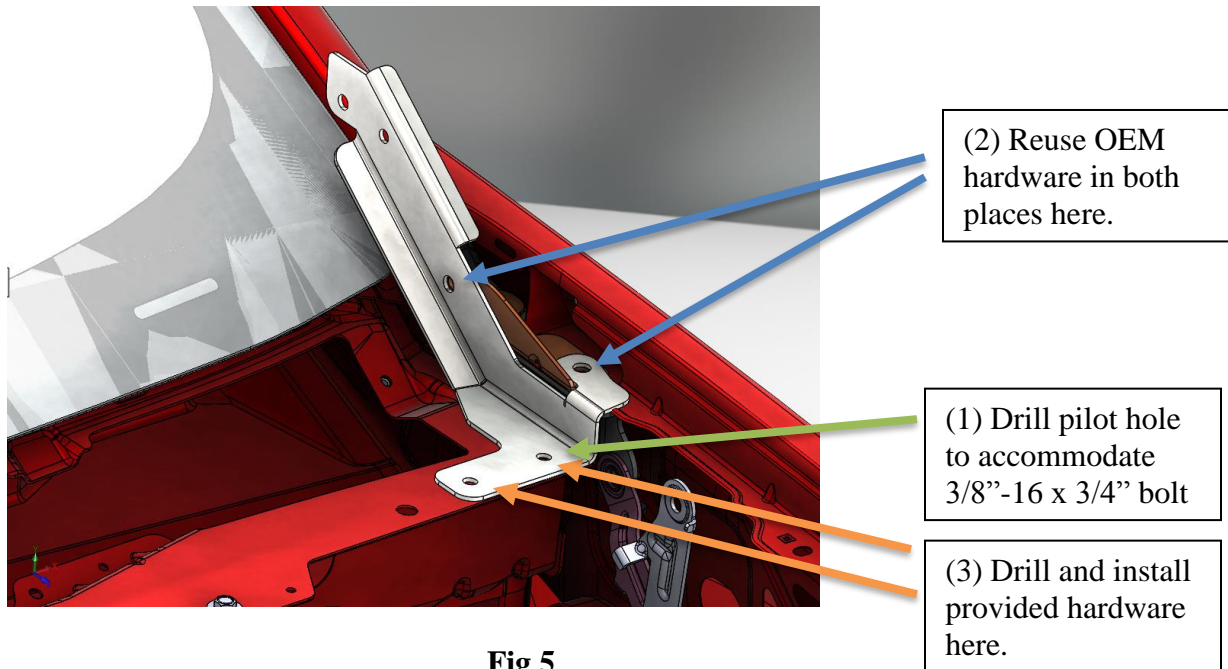

Fig 5
- Drill hole to 3/8" using factory hole as drill pilot as shown in **Fig 5** item (1).
- Position the driver side bracket as pictured in **Fig 5**.
- Loosely install the two factory bolts as shown in **Fig 5** item (2).
- Install the outer 3/8"-16 x 3/4" zinc bolt, washer, and Nylock nut in the hole that was drilled out as indicated in **Fig 5** item (1).
- Mark and remove bracket or just drill out the remaining hole indicated in **Fig 5** item (3).
****Note: When Drilling the #3 locations shown above in Fig 5 on the driver's side and passenger's side, use a scrap piece of metal under the drilling area to protect the coolant reservoir and wiring harnesses from contact with the drill bit. These can also be temporarily relocated to avoid contacting them during the drilling operation. ****